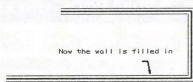

Figure 3
Now move the cursor up above your wall line to pick again for the inside of your wall. The wall will appear, as in figure 3, with the centerline drawn.
7. Move your cursor up vertically about another 20 feet. Pick for the second wall length, as shown in figure 3.